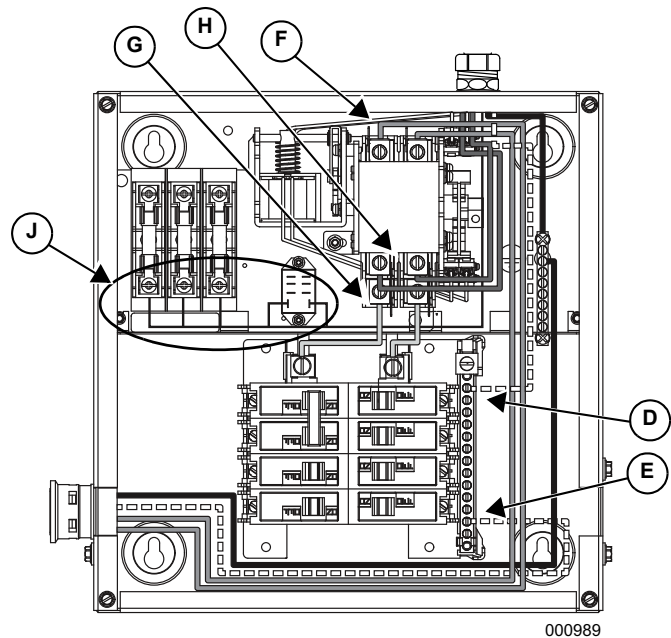

Figure 3-5.
9. Terminate the neutral conductor from the generator power feeder onto the neutral terminal bar in the transfer switch (E in Figure 3-5).
10. Terminate the normal power feeder conductors to N1 and N2 on the transfer mechanism (F in Figure 3-5).
11. Terminate the panelboard feeder conductors to T1 and T2 on the transfer mechanism (G in Figure 3-5).
12. Terminate the generator feeder conductors to E1 and E2 on the transfer mechanism (H in Figure 3-5).
13. Terminate generator control wiring to the N1, N2, T1, 23 and 194 terminals in the transfer switch (J in Figure 3-5).
8. Terminate the normal power neutral to the main lug on the neutral bar (D in Figure 3-5).